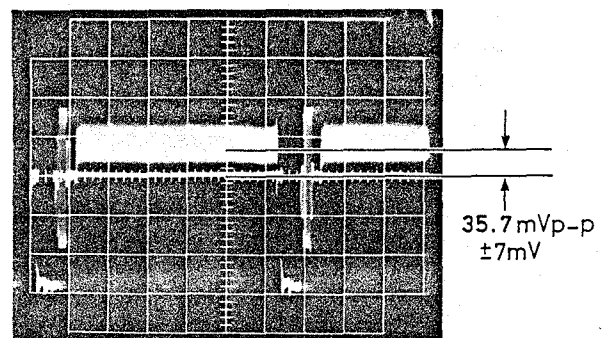

Fig. 4-19 Dark Offset Adjustment
6. Adjust Y SETUP control (RT1117) for $35.7\text{mVp-p} \pm 7\text{mV}$ from blanking level to the center of the waveform. (See Fig. 4-19)